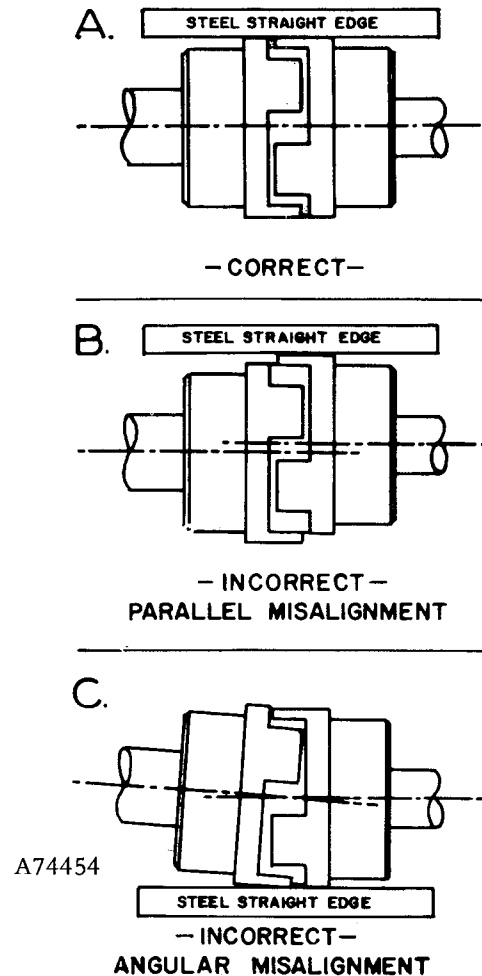

FIGURE 2-7. — COUPLING ALIGNMENT
and adjust the motor and compressor so that the gaps are uniform (Views "A" and "C", Figure 2-7). Maximum recommended gap variation is .010".
5. Check parallel alignment by placing a straight edge across both coupling body flanges. Shim and adjust the compressor and motor until the straight edge lies flat on both hubs measured at two (2) points 90° apart (Views "A" and "B", Figure 2-7). Maximum recommended difference in hub level is .010".